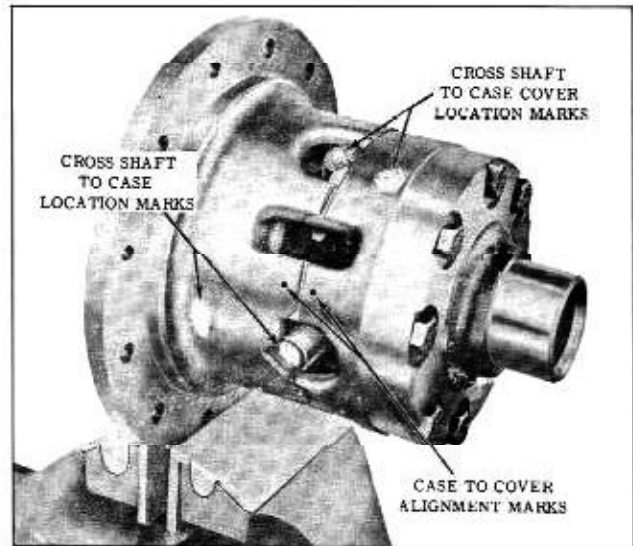

Fig. 6-42 Alignment Marks
3. Clamp the case assembly in a BRASS JAWED VISE by the ring gear or case flange. (Fig. 6-42)
4. Mark differential case and case cover with a center punch to provide alignment when assembling. (Fig. 6-42) If the cross shafts are to be reused, observe ends of shafts and case for daubs of paint identifying location. If they